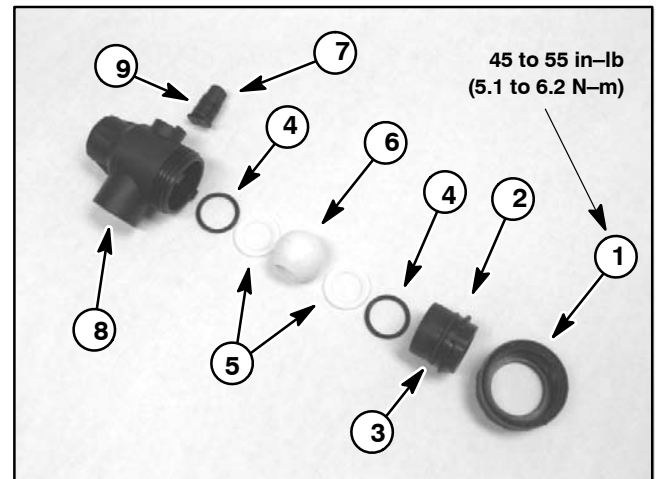

Figure 27
10. If needed, disassemble ball valve using Fig. 27 as a guide.
1. If ball valves were disassembled, assemble ball valves using Fig. 27 as a guide. Torque nut 45 to 55 in-lb (5.1 to 6.2 N-m).